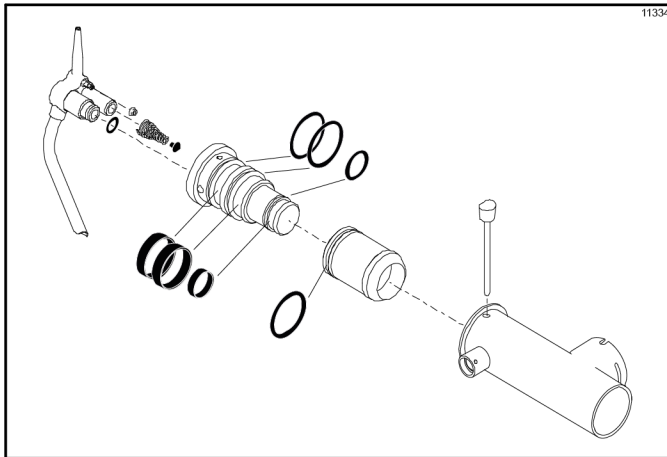
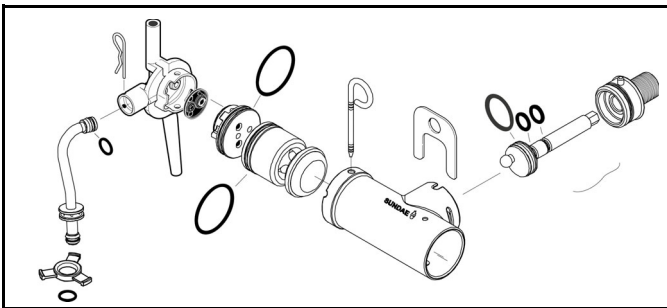

Figure 6-61 Coaxial Pump
Figure 6-62 Simplified Pump
4. From the pump cylinder, remove the retaining pin, liquid valve body, piston, mix inlet tube, spring, and poppet. Remove all O-rings and check rings. (See Figure 6-61.)(See Figure 6-62.)